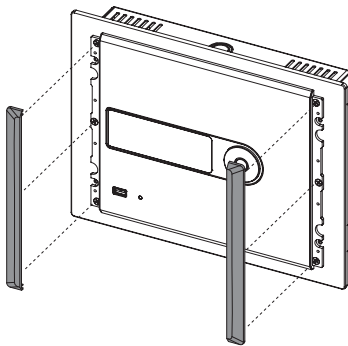

Fig 2
1. Remove the two Control Panel Dress End Caps. These End Caps are held by magnets with guide pins for alignment. They need to be lifted away from the panel. See Figure 2.